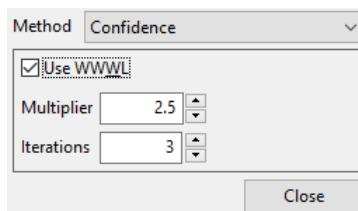

Figure 6.29: Confidence parameter.
- **Confidence:** This method starts by calculating the standard deviation and the mean value of the pixel selected by the user and its neighbourhood. Connected pixels with value inside the range (given by the mean more and less the standard deviation multiplied by the **Multiplier** parameter). It's calculated the mean and the standard deviation from the selected pixels. Which follows by other expansion step. This process is repeated according to the number of **Iterations** parameter. The figure 6.29 shows the parameters for this method.